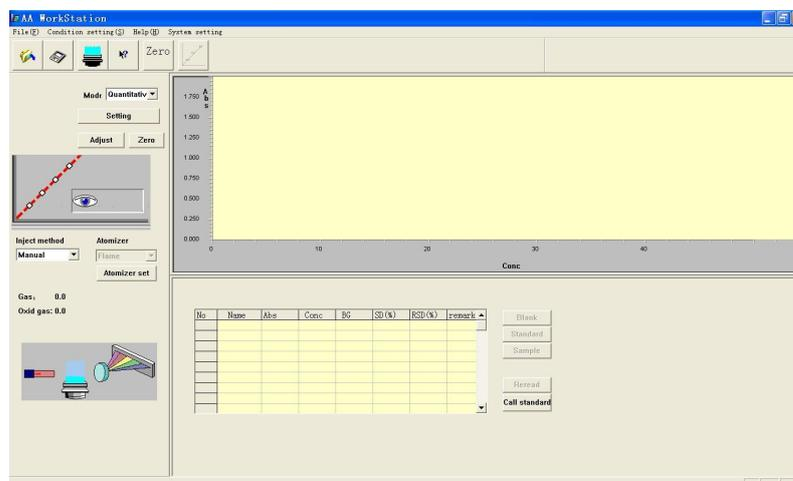

Figure 5-35
3. As shown in Figure 5-35, select "Quantitative analysis" in the pull-down list.